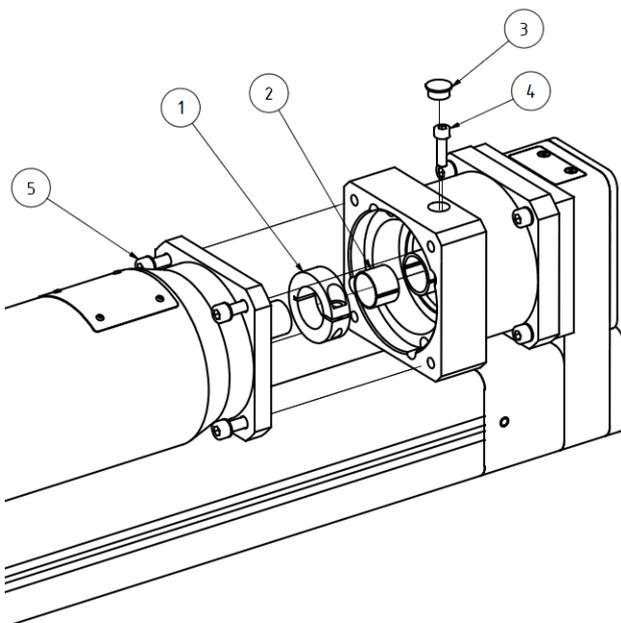

Figure 5
- ◆ Remove lid (figure 5 pos. 3) and loosen screws (figure 5 pos. 4)
- ◆ Loosen motor fixing screws (figure 5 pos.5)
- ◆ Clean contact surfaces of motor, motor shaft, motor flange, hollow shaft bore, clamping ring (figure 5 pos. 1) and spacer sleeve.
- ◆ Shaft, bore, clamping ring (figure 5 pos. 1) and spacer sleeve must be free from burrs, dirt and grease.
- ◆ Push the spacer sleeve (figure 5 pos. 2) in the hollow shaft bore up to its stop.
- ◆ Put the clamping (figure 5 pos. 1) ring onto the hollow shaft and shift it up to the stop.
- ◆ Insert and tighten motor fixing screws slightly figure 5 pos.5).
- ◆ Insert and tighten clamping screws slightly figure 5 pos.4).
- ◆ Tighten clamping screw (figure 5 pos. 4) with the respective tightening torque.
- ◆ Close the opening in the motor flange with the lid (figure 5 pos 3)